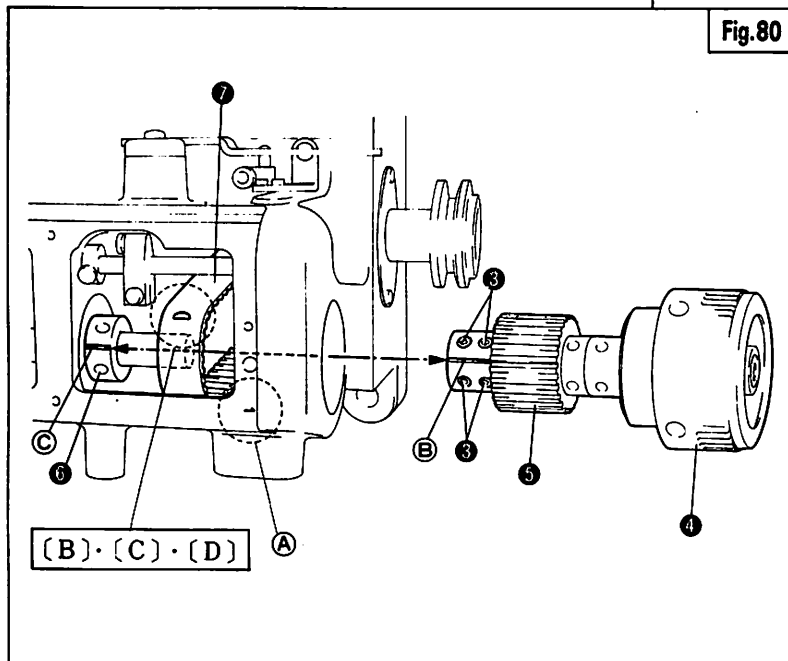

Fig. 80
2. Refer to Fig.80. Loosen four Screws ③, draw out Handwheel ④ to the right while turning it slowly.